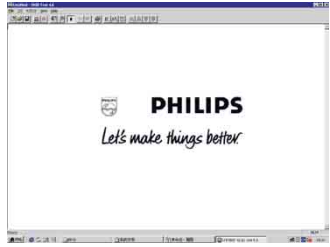

Fig. 11
- 1. Click icon as shown in Fig. 11 from the tool bar to bring up the Channels "Configuration Setup" windows as shown in Fig. 12.